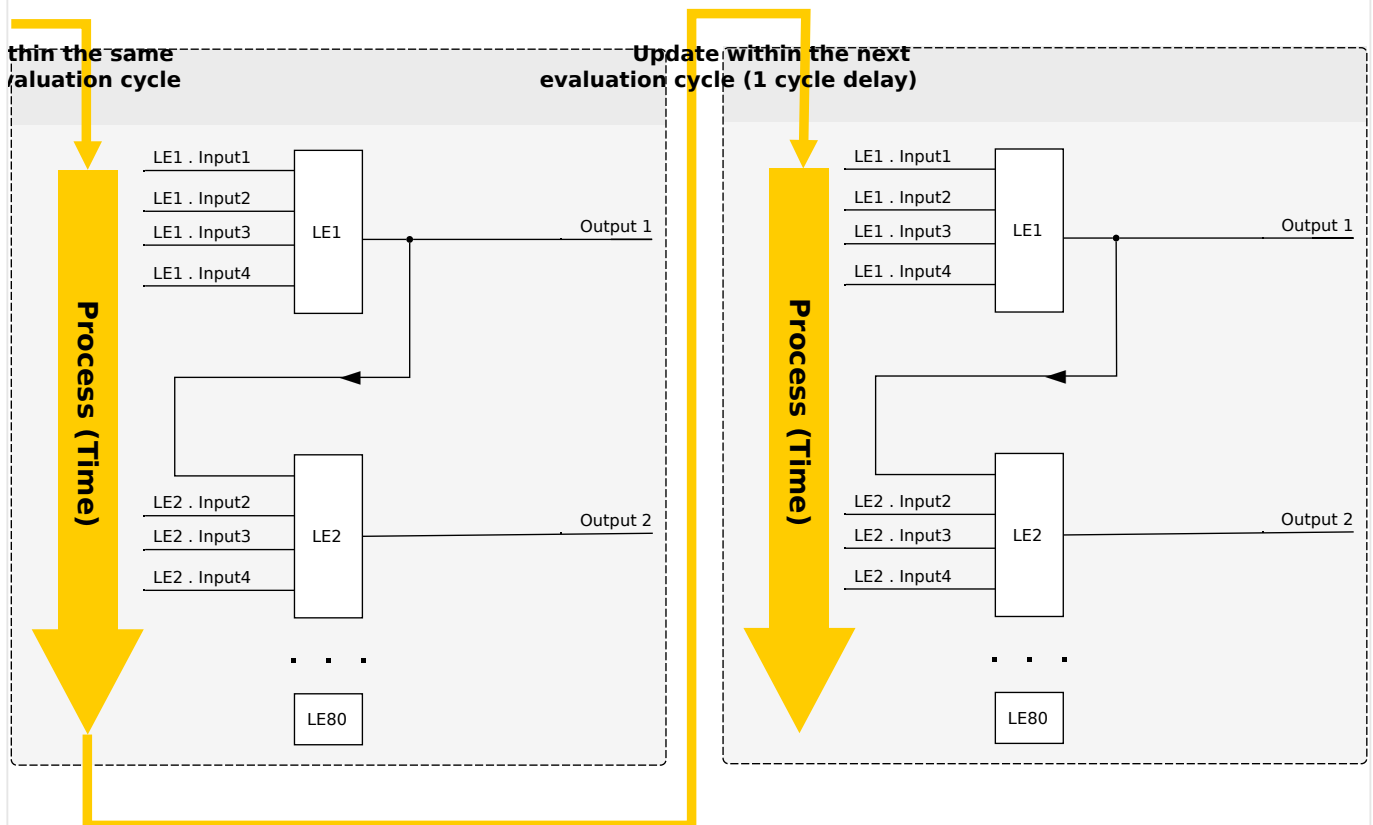
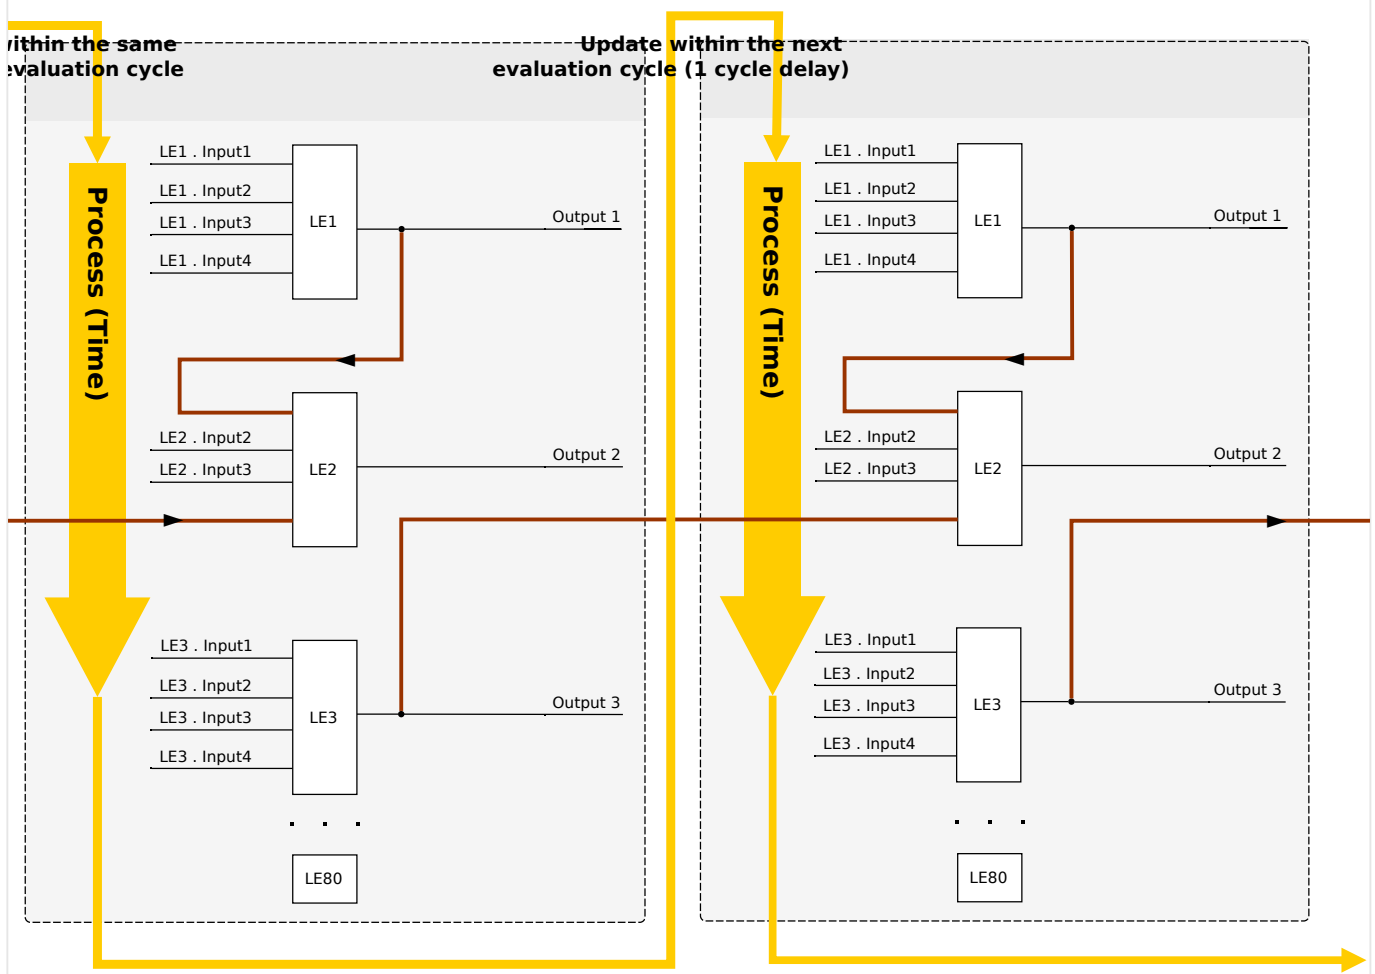

Fig. 180: Cascading in Ascending Order.
Fig. 181: Cascading in Descending Order.
- **Ascending** sequence means that some output is fed into the input of a logic equation with **higher** number. For instance, diagram ↪Fig. 180 below shows an example where the result of Logic Equation LE1 is used as an input of Logic Equation LE2.
- **Descending** sequence means that some output is fed into the input of a logic equation with **lower** number. For instance, diagram ↪Fig. 181 shows an example where the result of Logic Equation LE3 is used as an input of Logic Equation LE2.
Both ascending and descending sequences may be used and combined one with the other, with no immediate difference. However, due to the evaluation of all equations in ascending order the actual run-time values that are fed in at the input of an equation will have a different “age”, as is shown in ↪Fig. 180 and ↪Fig. 181 below.
In the example shown in Fig. 181 above, “Logic Equation 2” uses the output states of two other equations, “Logic Equation 1” and “Logic Equation 3”. The result of “Logic Equation 1” is used in ascending order and has therefore been evaluated within the same process cycle. The result of “Logic Equation 3” is used in descending order and has therefore been evaluated in the previous process cycle.